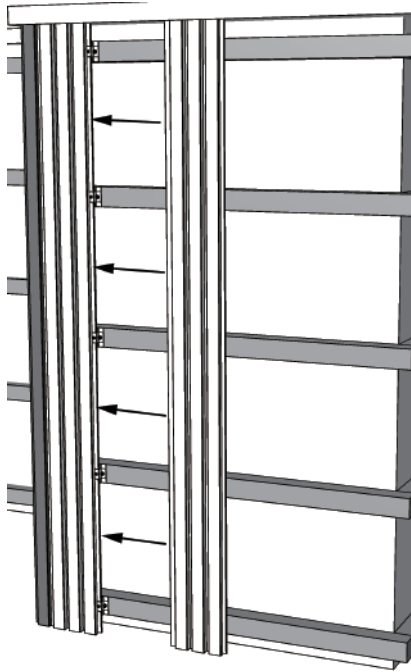
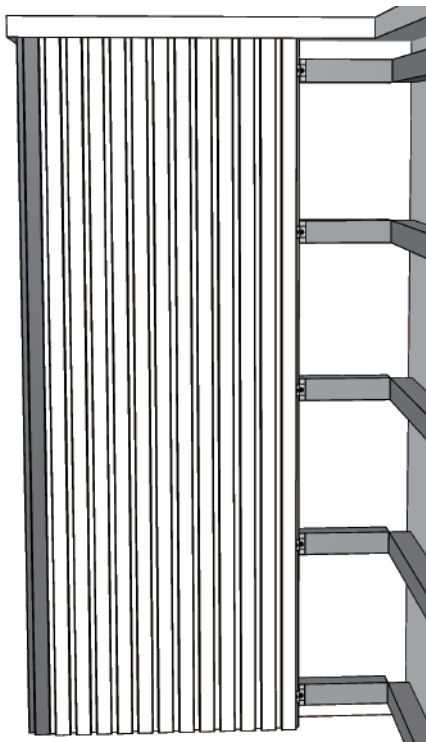

Fig23-4
Fig23-5
3. Follow the steps in Figure 23-4 to install to the most side board. As shown in Figure 23-5.